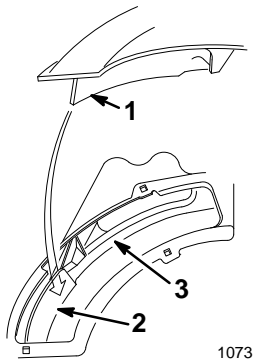

Figure 36
4. Place the front corner of the chute baffle into the deck opening. Rotate the chute counterclockwise and push it down into the deck opening (Fig. 36).
4. Place the front corner of the mulch plate baffle into the deck opening (Fig. 36).
5. Rotate the mulch plate counterclockwise and push it down into the deck opening (Fig. 36).